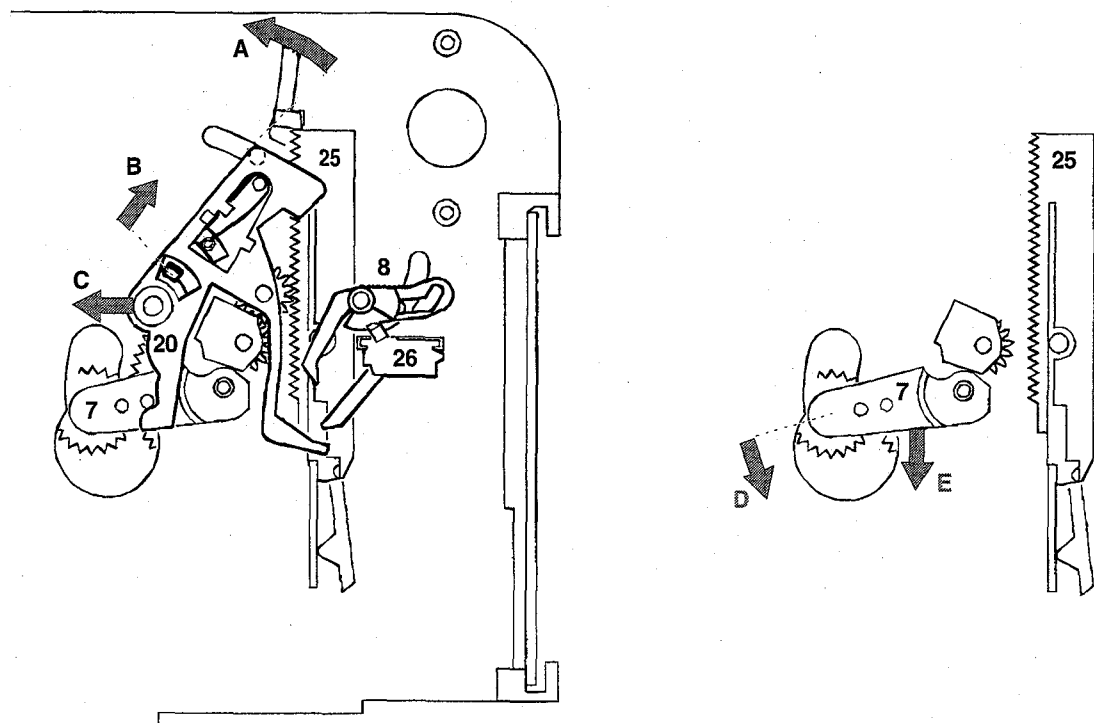

Fig. 7
- 12.2 Turn switching lever acc. fig.7-A